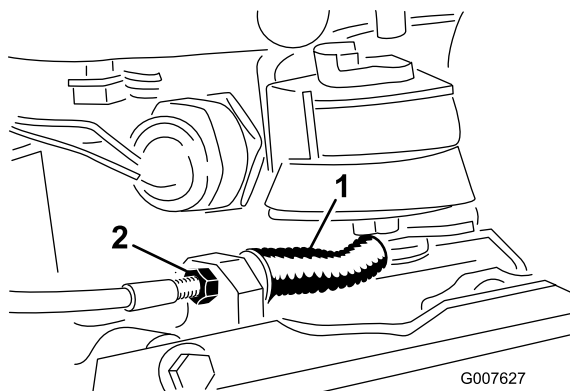

Figure 23
3. To increase the cable tension, loosen the front cable jam nut and tighten the back cable jam nut (Figure 23) until a force of 3 to 5 lb (1.5 to 2.3 kg) is required to engage the brake. Measure the force at the lever knob. Do not over-adjust it so that the brake band drags.